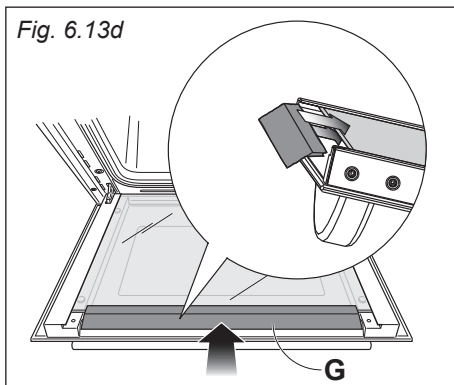

Fig. 6.13d
- Gently push the air deflector “G” back into place (fig. 6.13d).